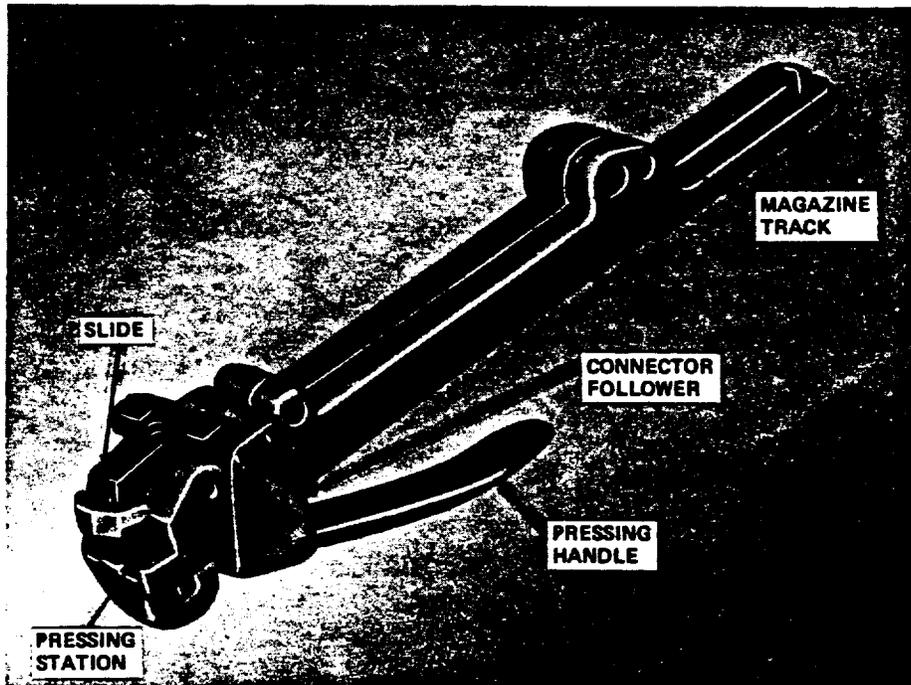

Figure 38. 1709A Tool
5.02 The 1709A tool (Comcode 104208467, Figure 38) is a magazine-type hand-operated presser that automatically advances connectors to the pressing station. A connector is fully pressed, one side at a time, by positioning the slide above the pressing station and operating the pressing handle. The magazine will accept the 709SCT or the 709SDT connectors.